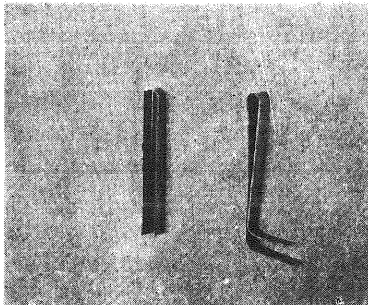
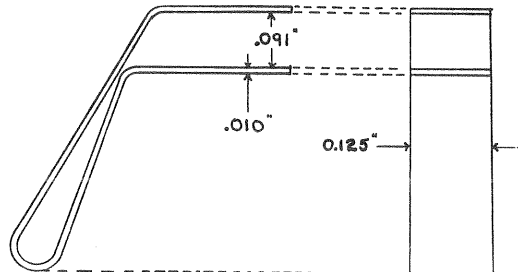

Fig. 3—Spacer tools
Fig. 3a—Spacer tool dimensions
If either end of the armature strikes the pole piece a very disagreeable rattle will result. To correct a misalignment of the armature a pair of spacer tools, shown in Figure 3, and a screwdriver will be necessary. These spacer tools should be made of .010 phosphor bronze stock about $\frac{1}{8}$ inch wide. The distance between the open ends of the tool should be .091 inches. See Figure 3a.
5. Insert the spacer tools (Figure 3) in position at the top and bottom of the armature and tighten down the armature screws as described for adjusting the armature in Part I of these instructions.